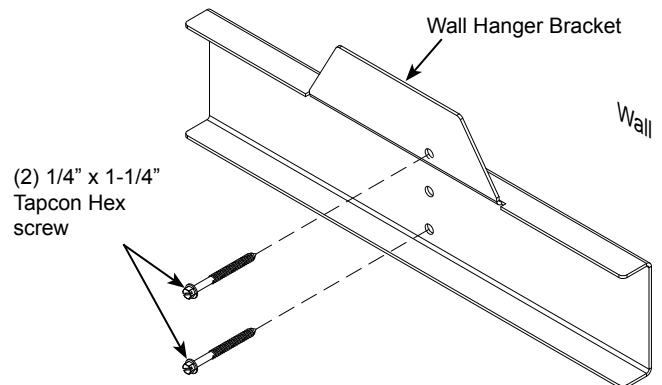

Figure 1.2
3. Mark the (2) mounting hole locations onto the wall.
4. Using a hammer drill with 3/16" masonry drill bit, drill into the wall at the (2) marked locations. (Approximately 1-1/4"D).
5. Install the wall hanger bracket with (2) 1/4" x 1-1/4" Tapcon fasteners. **Figure 1.2.** Tighten securely.